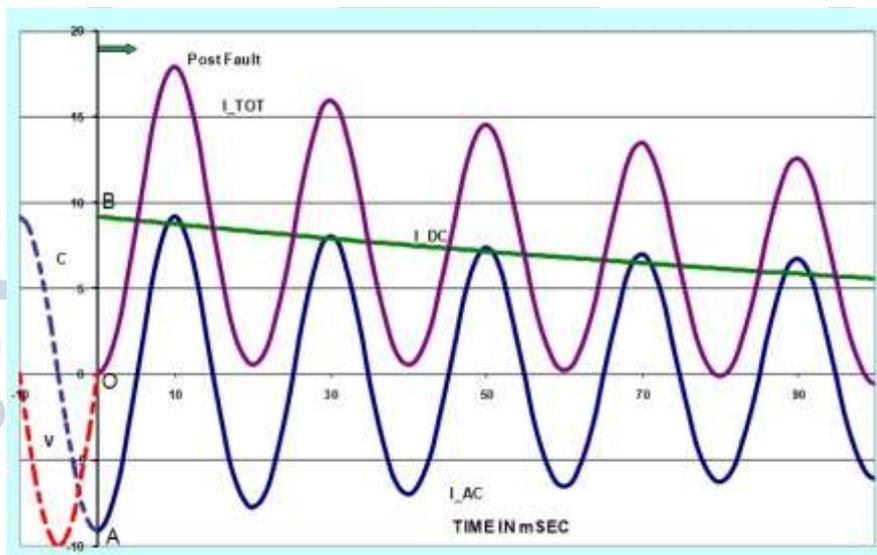

Figure 1
2.0 Typical short circuit wave form is shown in Fig 1. Assume the pre-fault load current is zero, which does not affect final calculations as explained in fault calculation module. Hence, just after fault inception, the fault current must start from O in figure to satisfy criterion (a) above.